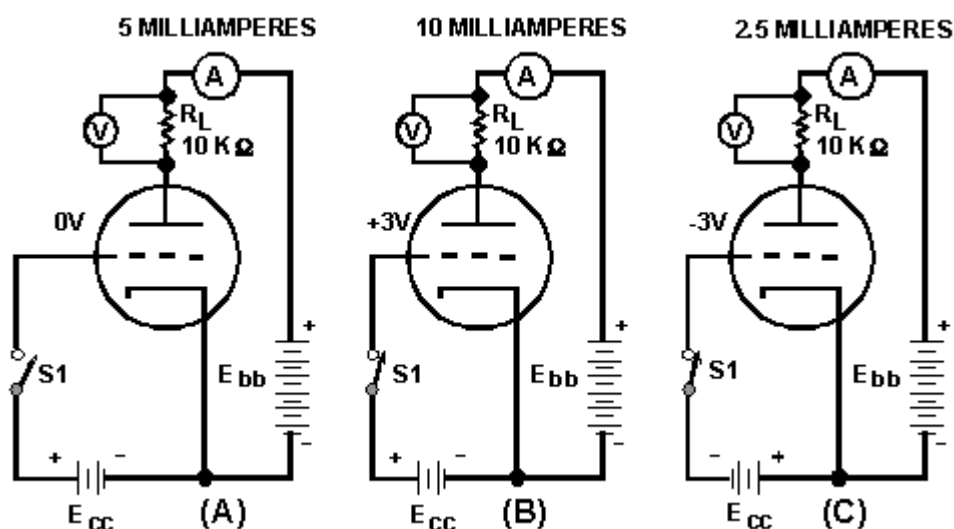

Figure 1-16.—Operation of the plate load resistor.
In other words, run the plate current variation (caused by the voltage on the grid) through a resistor, and cause a varying voltage drop across the resistor. This is shown in figure 1-16.
In view (A) of figure 1-16, the control grid is at 0 volts. Once again 5 milliamperes flow in the plate circuit. Now, the 5 milliamperes must flow through R_L . The voltage drop is equal to: